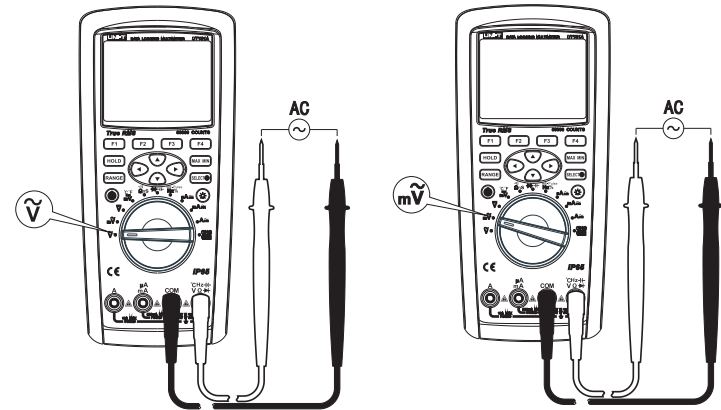

Figure 5
- 2) Set the rotary switch to  $\tilde{V}$  or  $m\tilde{V}$  as shown in Figure 5. Connect the test leads to the power or load under test in parallel.